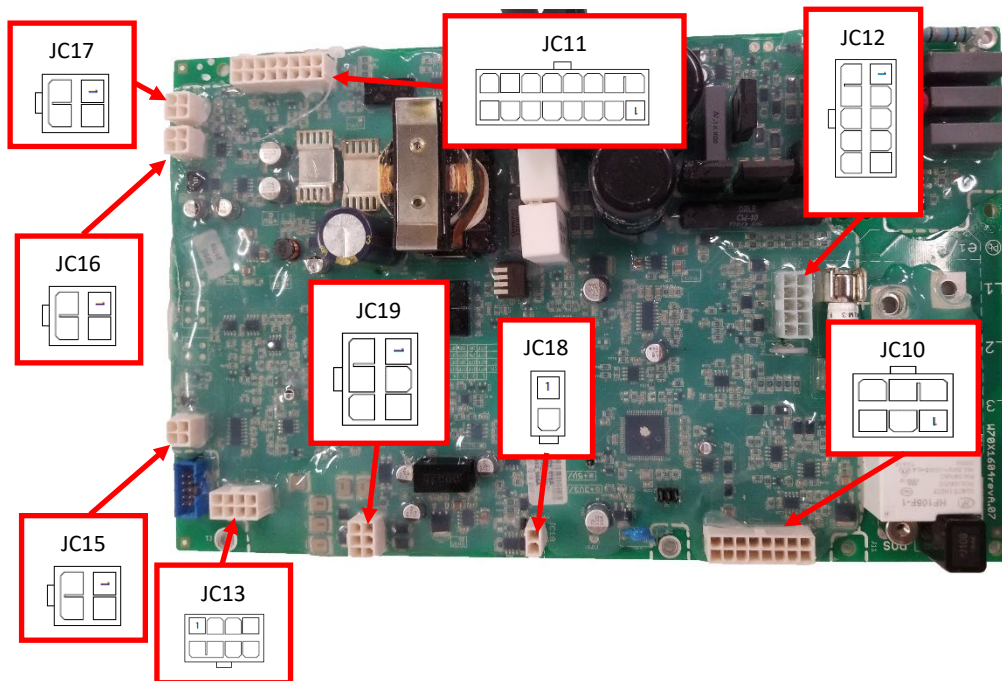

Figure F.4
B.3. Perform the measurements identified in Test Table 2 below, refer to Figure F.4 for test point locations. **NOTE: DO NOT DISCONNECT WIRES, PLUGS FROM THE INPUT POWER BOARD.**